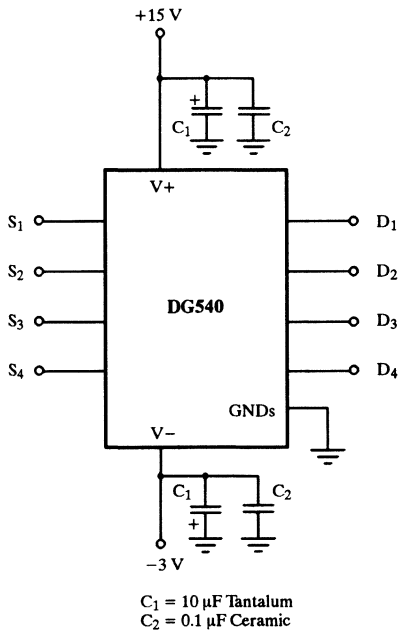

Figure 7. Supply Decoupling
- (1) Decoupling capacitors should be incorporated on all power supply pins ( $V+$ ,  $V-$ ). (See Figure 7.)
- (2) They should be mounted as close as possible to the device pins.
- (3) Capacitors should have good high frequency characteristics – tantalum bead and/or monolithic ceramic types are adequate.